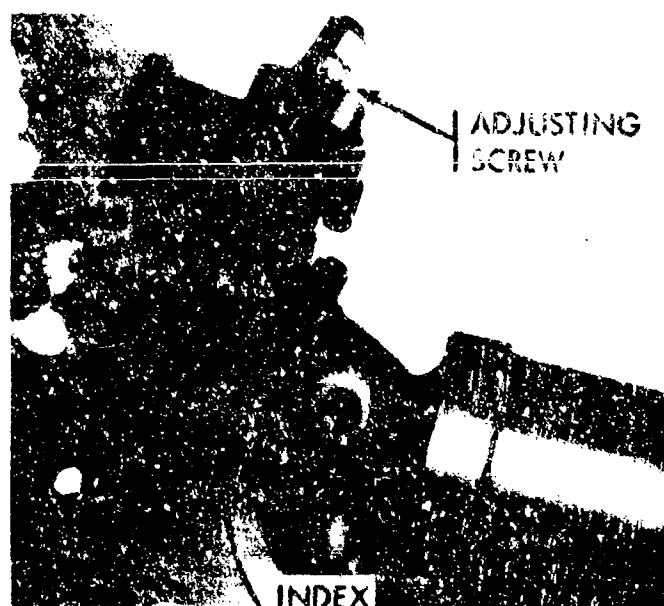

Figure 8-12. Temperature and adjustment scale.
(3) Elevation of the tube causes the plunger and the case to telescope. This lengthens the interior pressure area and thereby reduces the pressure, since the maximum lift is required only at the lower angles of elevation.
(4) The equilibrators are interchangeable if modified by an index line cut on both sides of the case head. If they are not modified, a plate must be fastened to the equilibrators to indicate which is the left and which is the right.
**Note.** Temperature adjustment scales (0° to 110°) are located on both trunnion bearing caps (fig 8-12). The scales indicate the approximate position of the equilibrators for the prevailing temperature. The temperature adjustment scale can be read accurately only when the tube is on the depression stops.